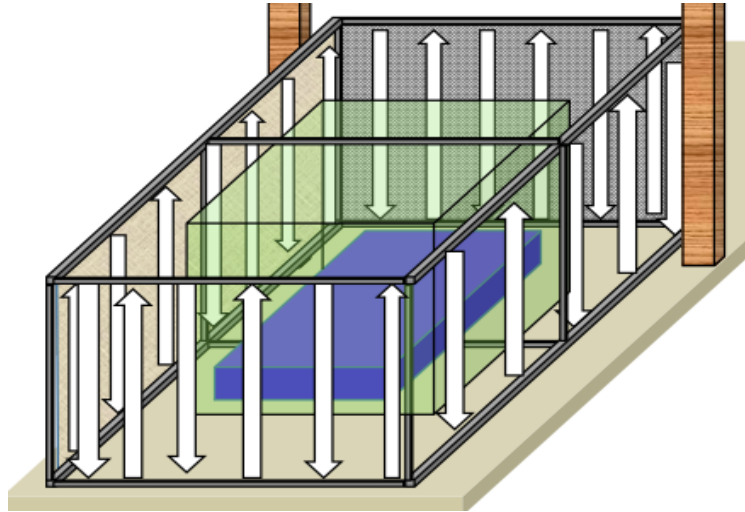

Figure 3. Direction for collection of Mosquitoes inside tunnel chamber (© Courtesy of Jason Moore, IHI)
- 4.22** Each volunteer will proceed to collect mosquitoes resting on the walls of the tunnel working from the bottom right corner of the chamber in a clockwise direction, working from the bottom up then down (Figure 3).